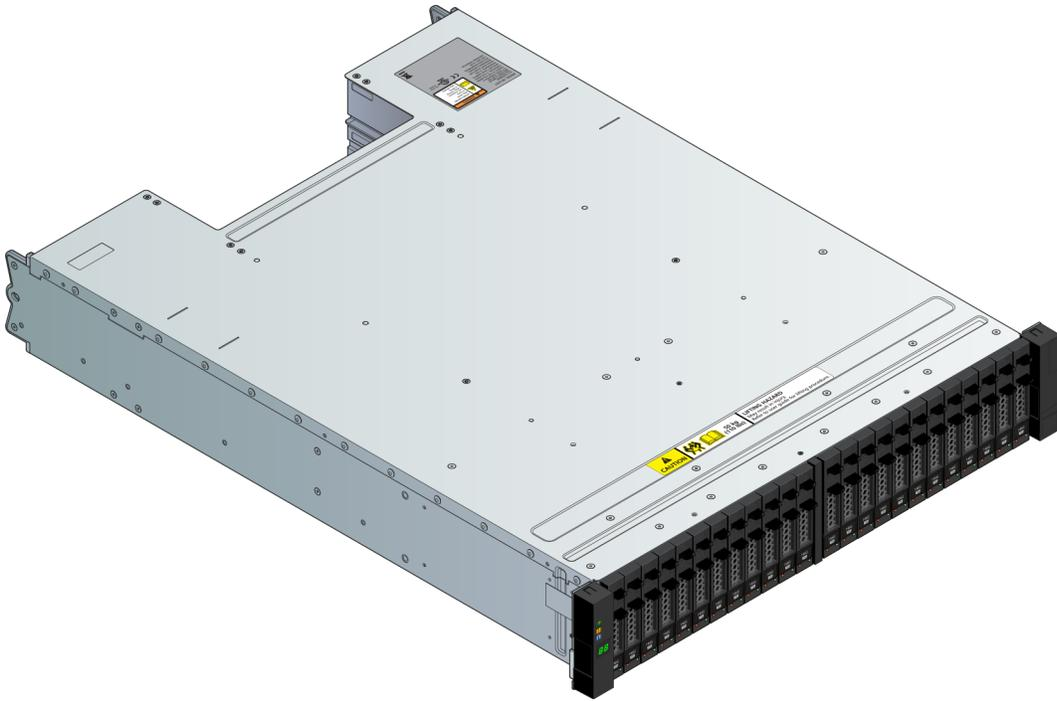

Figure 10. 2U24 Enclosure System – front view
- 2U (rack space) disk drive enclosure (see Figure 10 “2U24 Enclosure System – front view ” on page 9 and Figure 11 “2U24 Enclosure System – rear view ” on page 9): holds up to 24 low profile (5/8 inch high), 2.5 inch form factor drives in a vertical orientation.